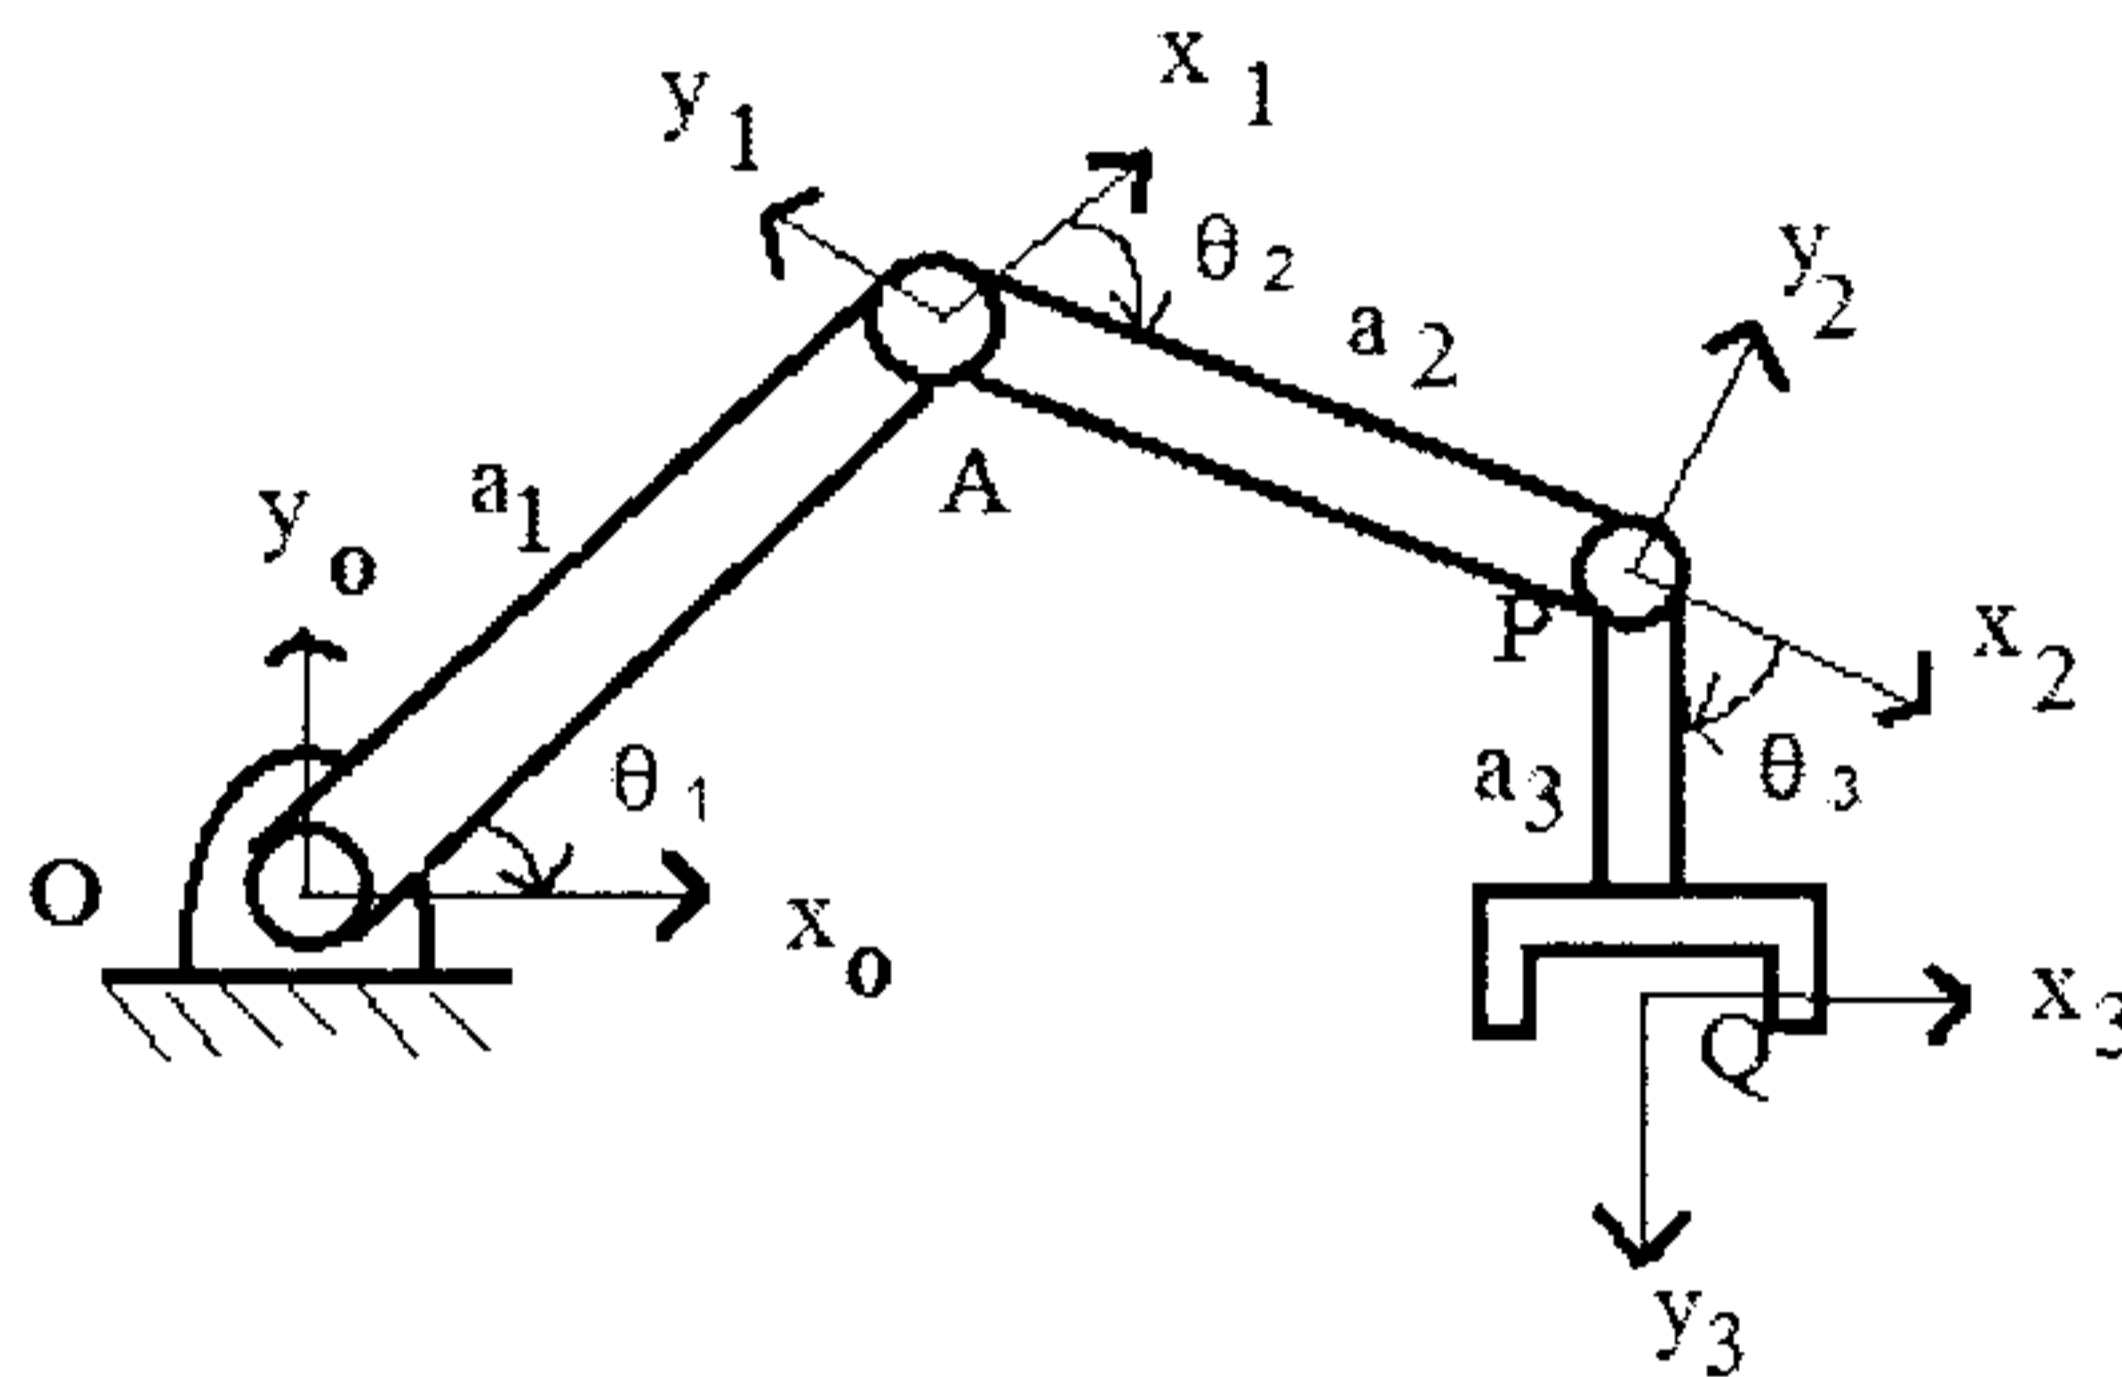

Figure-1
3. a) Figure-1 shows a planar 3-dof, 3r manipulator. We wish to move the end effector, Q, along the  $x_3$ -axis at 1.0 m/s and at the same time, keep the direction of approach, the  $x_3$ -axis, in the  $-y_0$  direction. Calculate the joint rates required to accomplish this task. Under what conditions will the joint rates approach infinity? 14 M